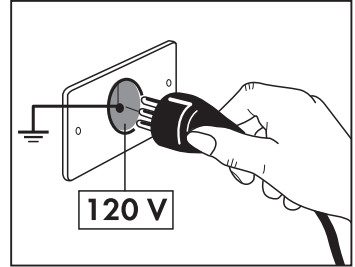

Fig. 1
- Make sure that the electrical installation (120V- 60Hz) is earthed and equipped with differential switch, as required by applicable safety regulations **(Fig. 1)**